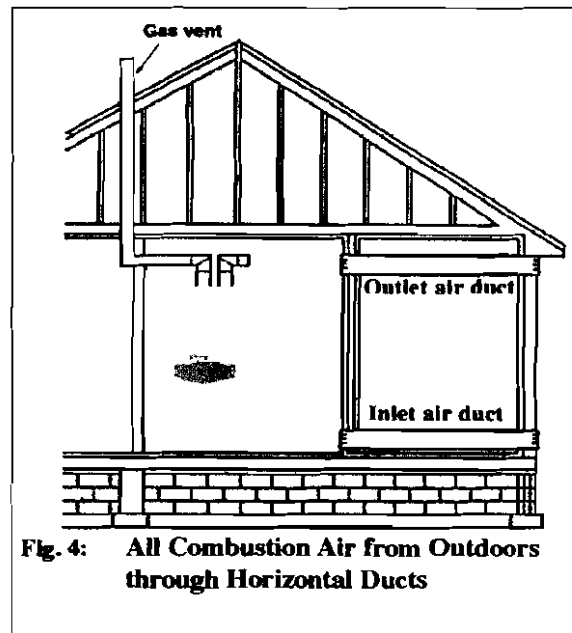

Fig. 4: All Combustion Air from Outdoors through Horizontal Ducts
- Where communicating with the outdoors is through horizontal ducts, each opening shall have a minimum free area of not less than 1 sq. in./2000 Btu/hr of total input rating of all equipment in the enclosure. See Fig. 4.